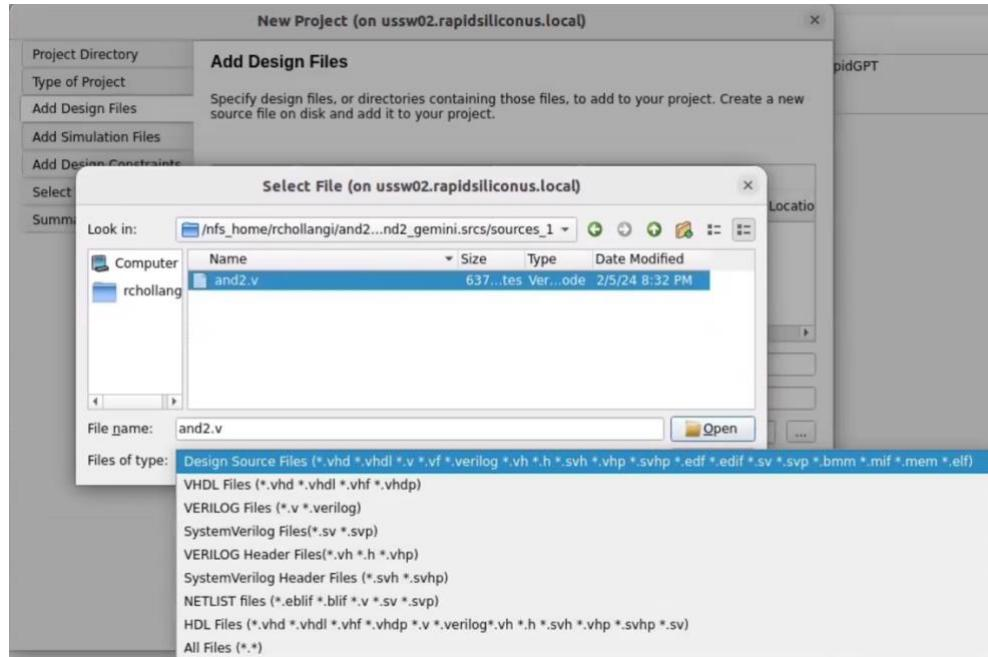

Figure 15. Add Individual Source Files
6. The user can also add individual source files using the "Add File" option as shown in Figure 15.